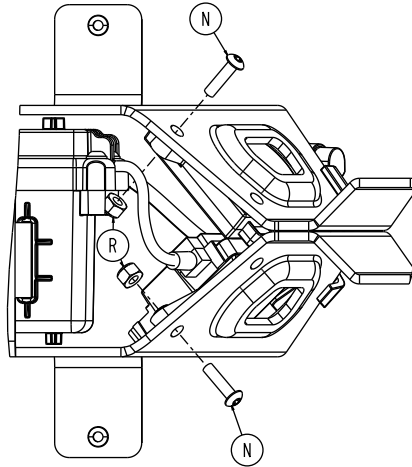

Figure 44 – Remove the wireless module screw and nut
7. Using a T25 Torx driver and a 3/8" combination wrench, remove the button head cap screw (N) and Fiberlock nut (R) that secure the wireless module, if equipped, and the NFMIC module to the cot, if equipped (Figure 44). Save the screw and nut.